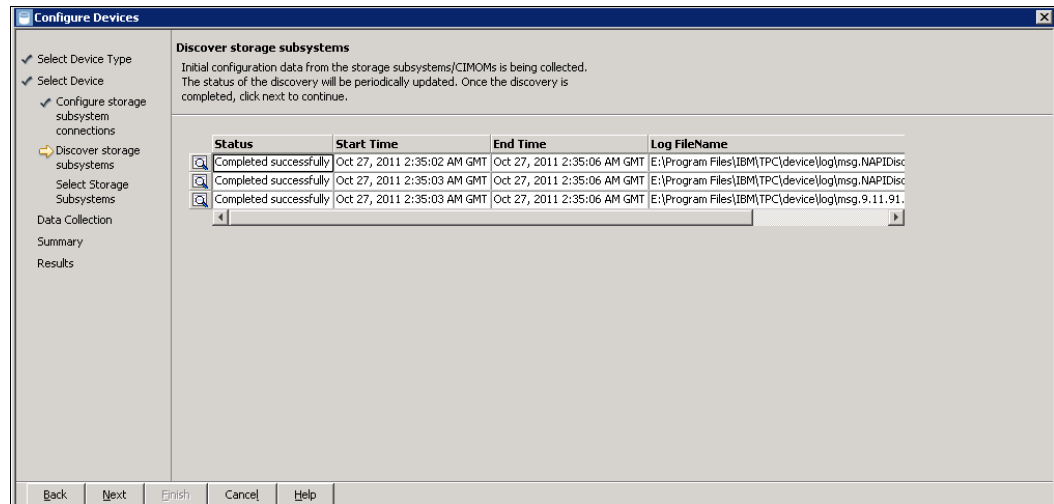

Figure 12-46 Discover subsystems
8. Repeat step 2 on page 443 through step 7 on page 445 to add another system, or click **Next** to complete the discovery of the new storage subsystems (Figure 12-46).